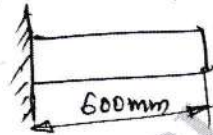

Fig.Q.7(b)
b. For a beam shown in Fig.Q.7(b), determine the eigen values and corresponding natural frequencies.